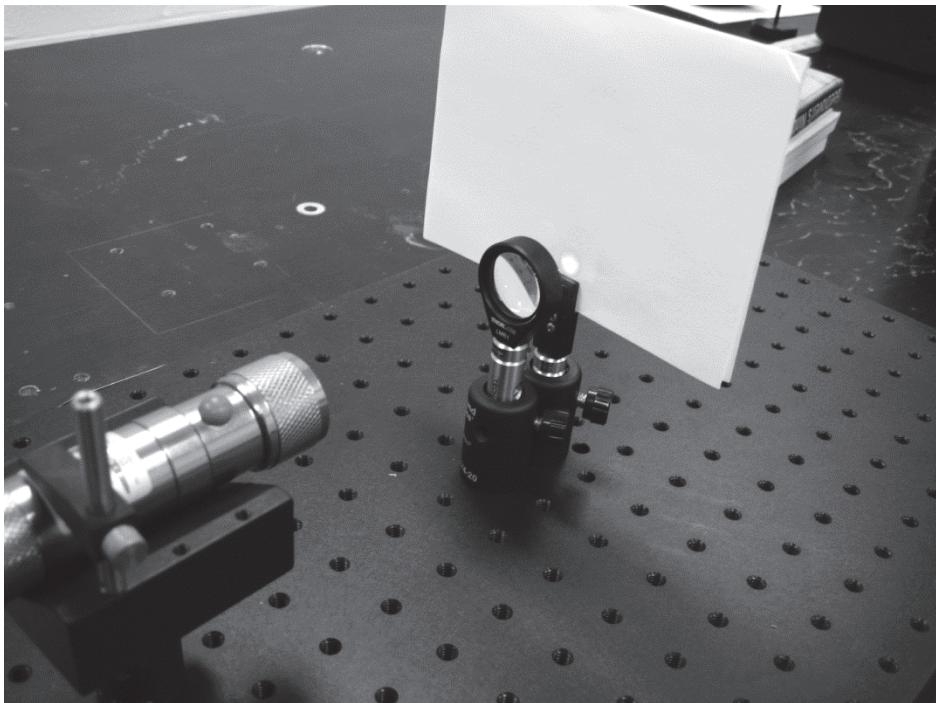

Figure 33 – Lens Focal Length Measurement Set-up
1. Refer to Figure 33 for these procedures. Using the V-Clamp for laser (LI-2), a 1.5" post (LI-5), and a 1.5" post holder (LI-4), mount the LED flashlight (LI-1) to the optical breadboard (LI-3). Turn the laser diode module on.